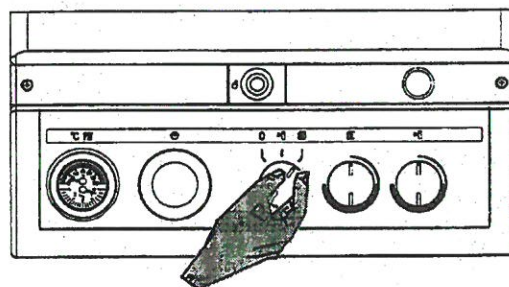

Fig. 5
- 2.1 With the boiler ON/OFF/Mode selector switch turned to  (fig. 5) (if external controls are fitted e.g. timeclock and/or room thermostat ensure they call for heat) the boiler will now go through an ignition sequence and the burner will light. (view through sight glass 1).